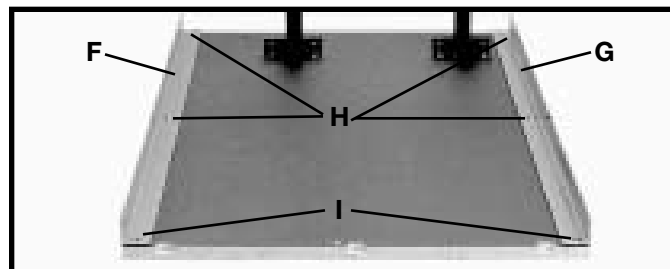

Fig. 10
6. Fasten the front (F) and rear table (G) supports Fig. 10, to the bottom of the table as shown using four #8x7/8" long wood screws (H) supplied. (Pilot holes can be drilled in the particle using a 1/16" drill bit, drilling 1/2" deep, to help attaching the front and rear table supports.)
NOTE: Make certain the ends of the table supports do not extend out past the table. The rear support (G) Fig. 10, can be fastened to the bottom of the table by tightening screws (H).